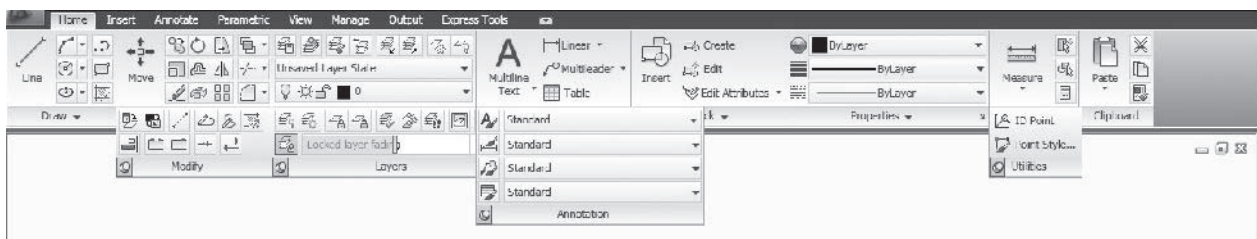

Fig. 2-6
2. Arrange the panels of the **Ribbon** so that your AutoCAD screen looks similar to the one in Fig. 2-6.